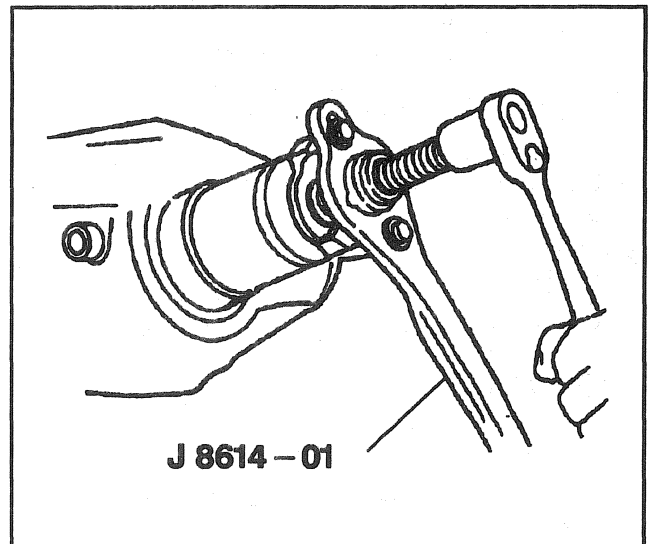

Figure 7—Removing the Pinion Flange
- 17. Pinion flange using J 8614-01 (Figure 7).